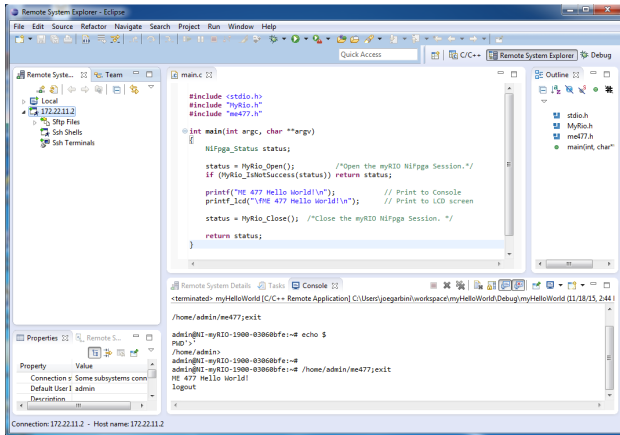

Figure 00.7: Remote Systems Explorer with myRIO connection successfully defined.
5. Enter the IP address 172.22.11.2 in the Host name textbox and click **Finish**. Your target displays in the Remote Systems tab in the Remote System Explorer pane, as shown in Figure 00.7.